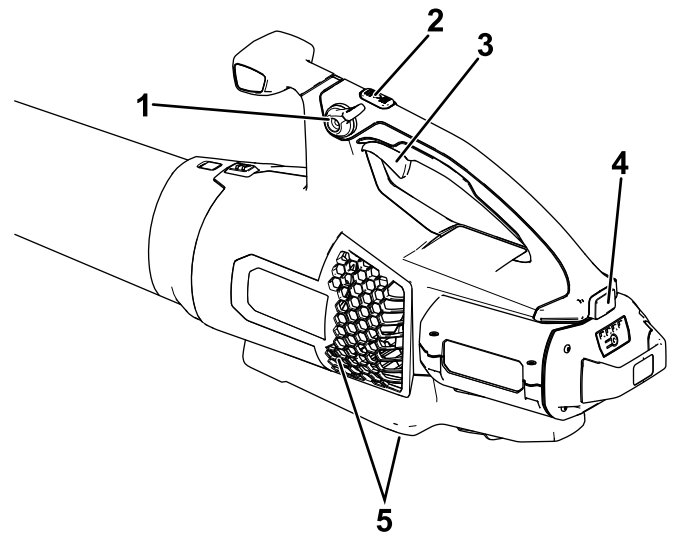

Figure 7
4. To start the blower, squeeze the variable-speed trigger (Figure 7).
**Note:** Engage the speed lock to keep the machine on without pressing the variable-speed trigger (Figure 7).
To achieve maximum performance (air speed) , press and hold the turbo boost button for the desired amount of time (Figure 7).
To adjust the air speed as you blow, use the variable-speed trigger (Figure 7).
To maintain the current air speed, engage the speed lock (Figure 7).
To shut off the blower, disengage the speed lock (if in use) and release the variable-speed trigger (Figure 7).